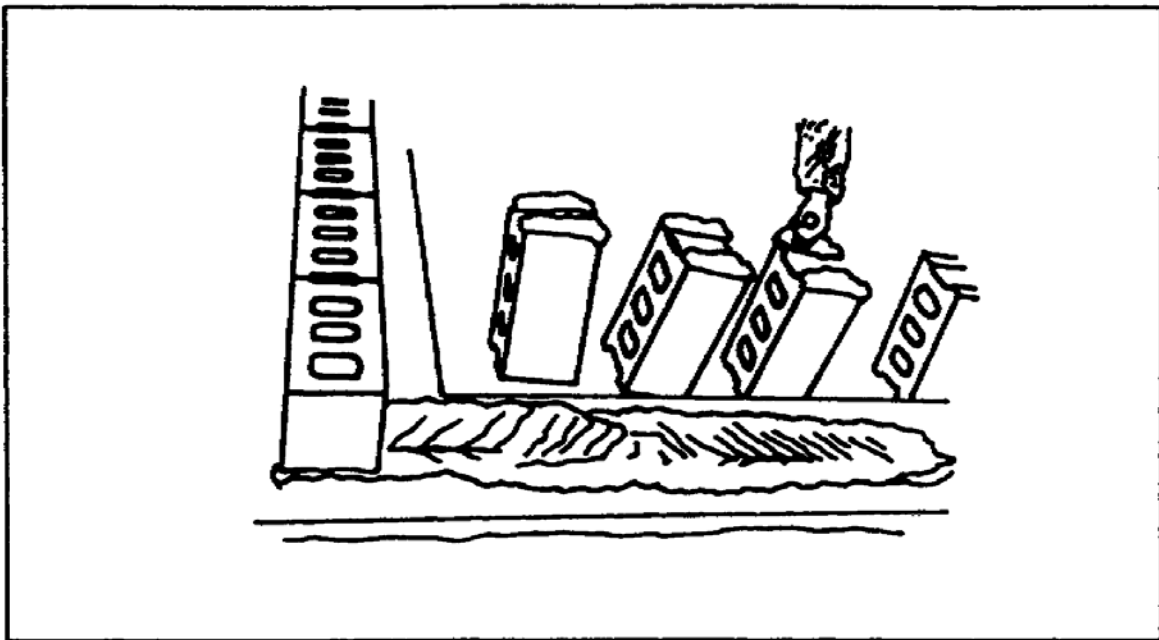

Figure 2-8. Applying mortar for vertical joints
**2-10. Making Vertical Joints.** Apply mortar to the ends of the blocks for vertical joints. You can save time by placing several blocks on the ends and applying mortar to the vertical faces in one operation (Figure 2-8). Then place each block over its final position and push downward into the mortar bed and against the previously laid block to obtain a well-filled vertical joint (Figure 2-9).